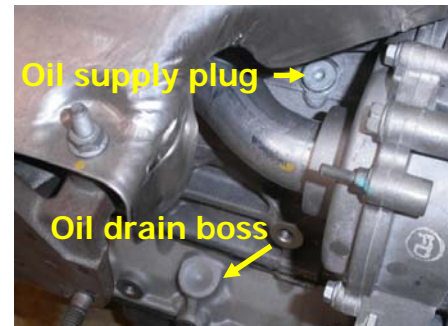
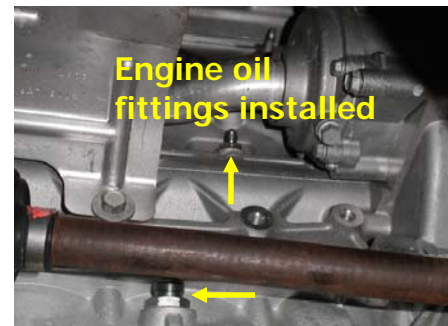

Fig. 10
Fig. 11
12. Install the oil drain fitting – using the drill fixture (PN 765322-0001) and bolt (PN 400664-1016) supplied, attach the drill fixture to the block. Center the drill fixture on the dish of the boss (Figure 10) and tighten the fixture in place (Figure 9). Using a 0.5" drill bit (or 12.5mm), drill a hole through the boss. Remove the drill fixture and tap the hole to M14x1.5. Install the supplied -8 fitting with a bit of thread sealer (Figure 11).
13. Install turbo oil supply fitting on the engine – using a 7mm Allen key, remove the (forward) plug under the water pipe (Figure 10). Replace with the -3 oil supply fitting and copper crush washer. Tighten fitting with a 16mm wrench (Figure 11).